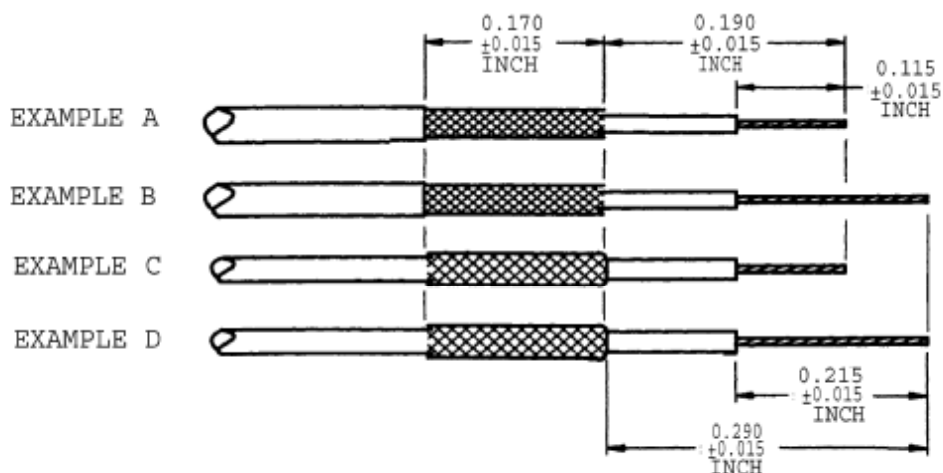
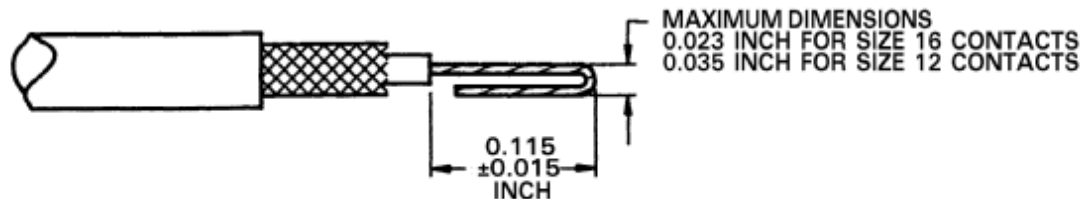

Figure 5-3. Coaxial Cable Stripping Dimensions (Refer to Table 5-1)
Figure 5-4. Small-Diameter Center Conductor Folded Back
2. Prepare the coaxial cable to the dimensions shown in the applicable example in Figure 5-3, based on the following criteria:
- o NOTE: If the braid fold-back method is used, fold braid back over cable jacket and trim to the dimensions shown in Figure 5-3.
7. If the center conductor strip length is 0.215 inch as shown in examples B and D of Figure 5-3, fold the center conductor back on itself as shown in Figure 5-4.
1. Strip the RG-178B/U coaxial cable as shown in example A of Figure 5-3